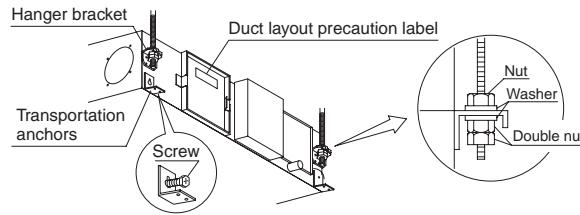

Fig. 4
**(1) Install the unit temporarily.**
- Attach the hanger bracket to the suspension bolt. Be sure to fix it securely by using nuts (M10, M12) and washers (M10 with external dia. 30 to 34 mm, M12 with external dia. 36 to 38 mm) (locally procured) from the upper and lower sides of the hanger bracket. **(Refer to Fig. 4)**